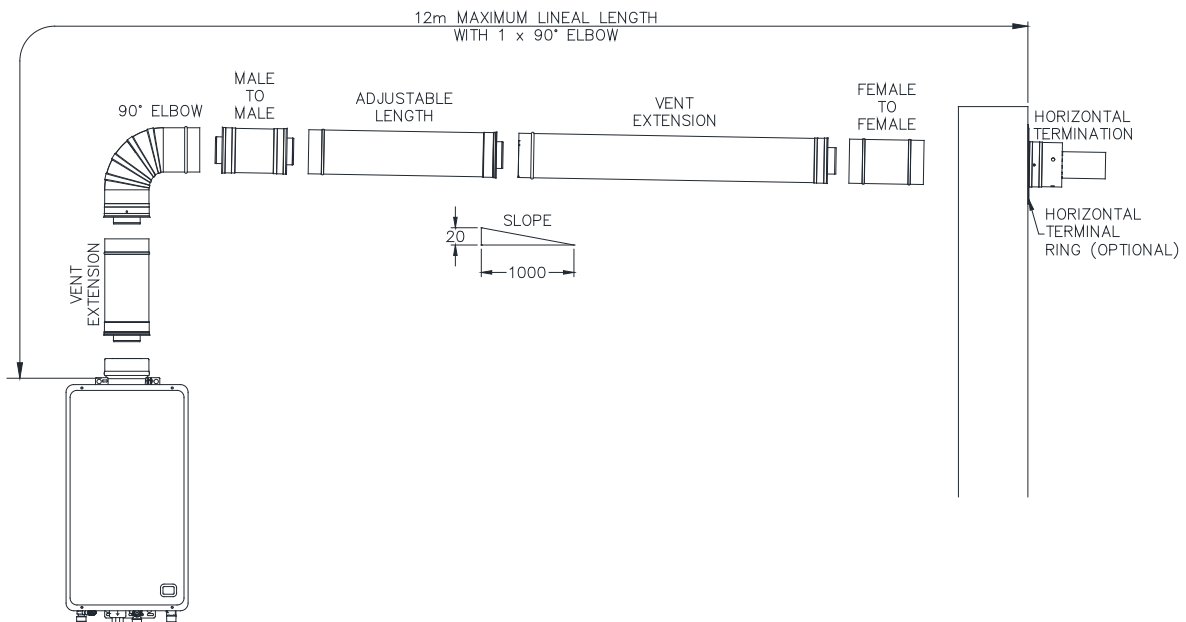

Figure 19- Typical Installation – Horizontal Terminal with One Elbow
- Use Male to Male and Female to Female Adapters to reverse the direction of flue insertion where three or more sections of flue are used in a horizontal flue run and the flue drains toward the flue terminal. Refer to Figure 19- Typical Installation – Horizontal Terminal with One Elbow on page 34.